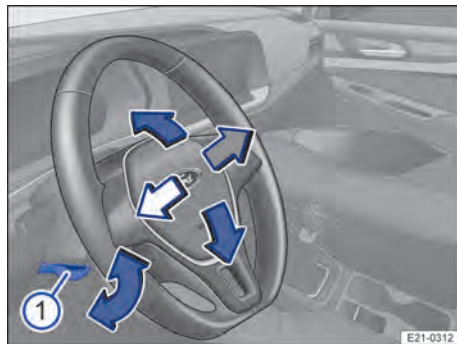

Fig. 57 Below the steering wheel in the steering column trim: lever for adjustment of the steering wheel position.
1. Push the lever down → Fig. 57 ①.
3. Push the lever → Fig. 57 ① up firmly until it is flush with the steering column trim → ⚠.